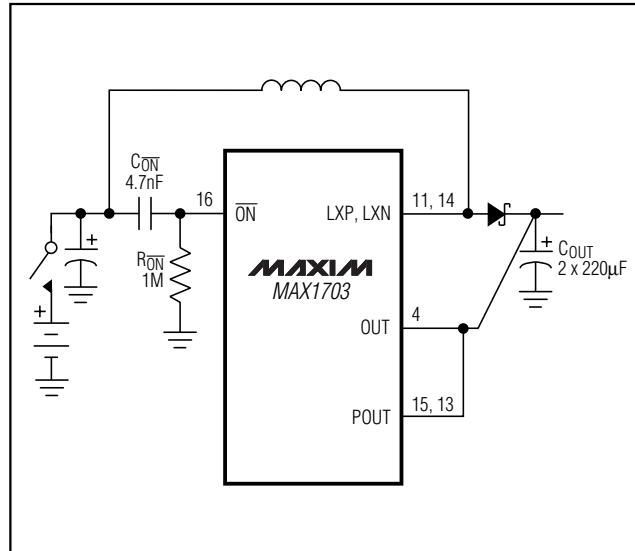

Figure 7. Connecting $C_{\overline{ON}}$ and $R_{\overline{ON}}$ when Switch or Battery-Contact Bounce is Anticipated
- 1) Connect a capacitor ($C_{\overline{ON}}$) from \overline{ON} to V_{IN} and a $1\text{M}\Omega$ resistor ($R_{\overline{ON}}$) from \overline{ON} to GND, as shown in Figure 7. This resistor-capacitor network differentiates fast input edges at V_{IN} and momentarily holds the IC off until V_{IN} settles. The appropriate value of $C_{\overline{ON}}$ is 10^{-5} times the total output filter capacitance (C_{OUT}), so a C_{OUT} of $440\mu\text{F}$ results in $C_{\overline{ON}} = 4.7\text{nF}$.